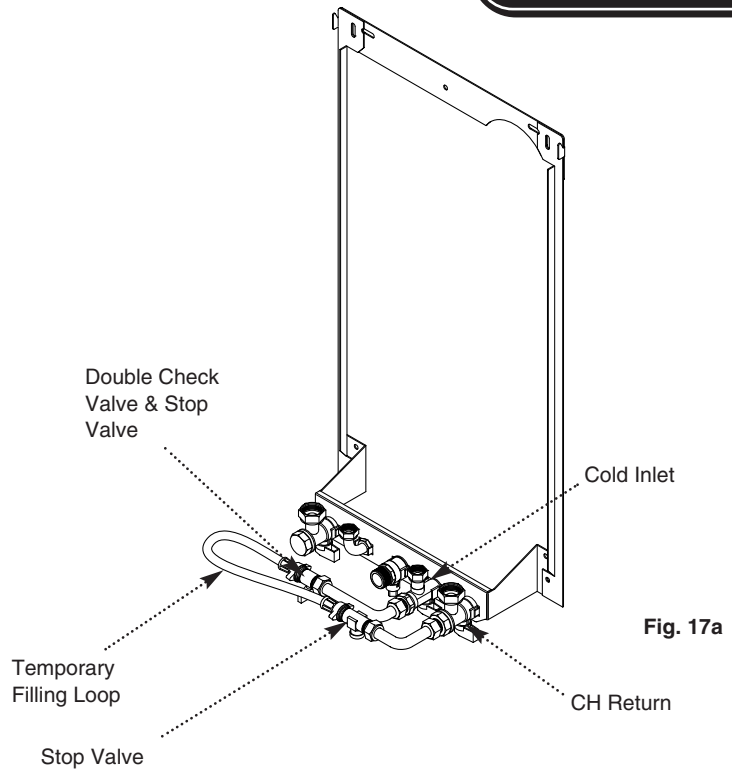

Fig. 17a
3. The loop and valves must be connected as shown in the diagram (Fig. 17a).